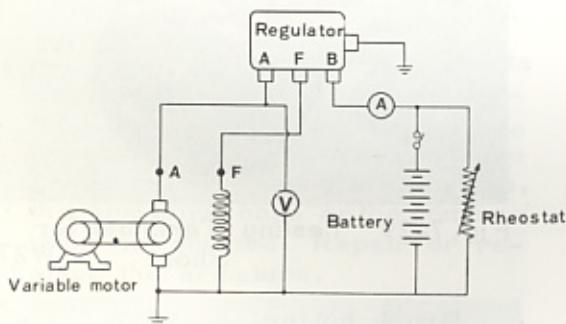

Fig. 7-31 Wiring for Output Test Z0114
1. Perform the output test making a circuit as shown in figure 7-31.